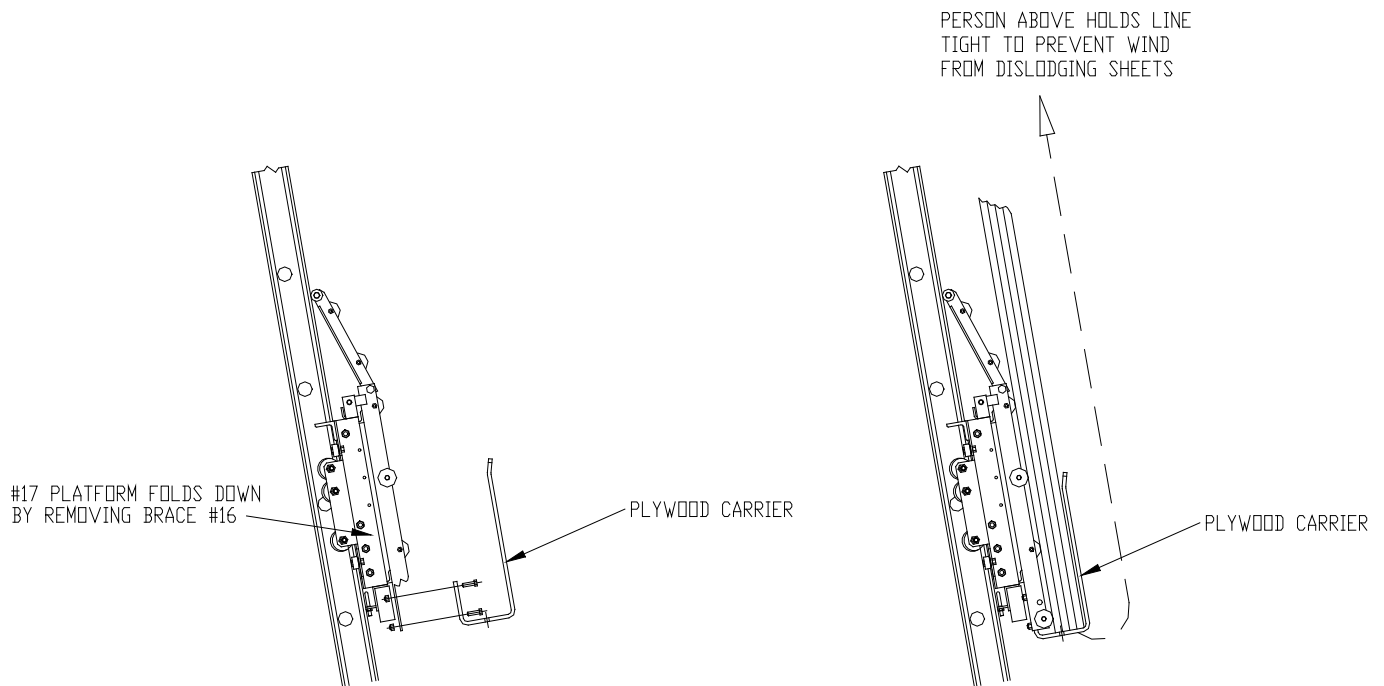

Figure 3-5.
3. Refer to Figure 3-5. Attach the two plywood carrier brackets using the existing platform stop holes and platform stop hardware.